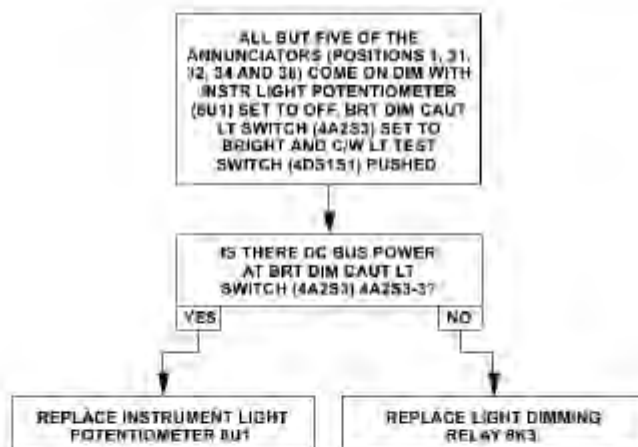

Figure 96-96: Caution/Warning/Advisory Panel Lighting and Dimming – Trouble No. 2
- If all of the annunciators (except for the positions 1, 31, 32, 34, and 36) come on dim, refer to Trouble No. 2 (Figure 96-96).